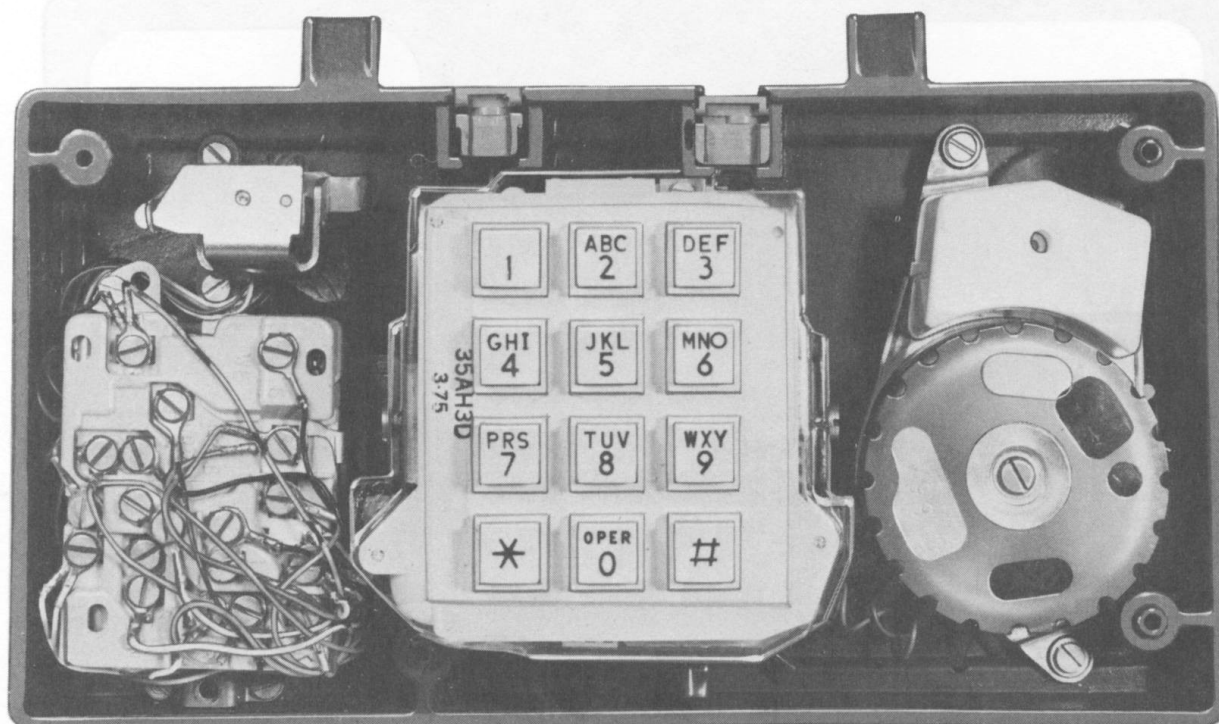

Fig. 13— 2930B Telephone Set, Upper Housing, and Handset Mounting Plate Removed
- (4) Remove handset cord jack and mounting cord jack by lifting out (Fig. 13).
- (5) Remove screws holding company-owned components to base and remove components.
- (6) Reassemble handset mounting plate and upper housing on lower housing.